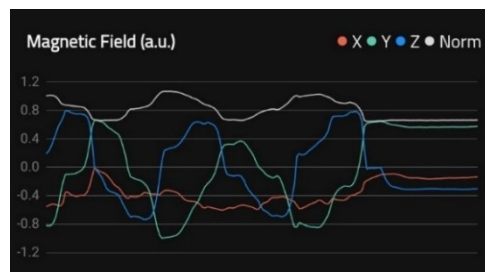

Figure 5: Mag Norm fluctuates when moving
- Areas for which the magnetic norm = 1 and the variation remains within  $\pm 0.2$  are **magnetic homogeneous** and best for carrying out the measurements (see Figure 5). However, if the measurement begins with a magnetic norm of around 2 or 3, and remains within  $\pm 0.2$  of this value, the orientation should remain accurate.